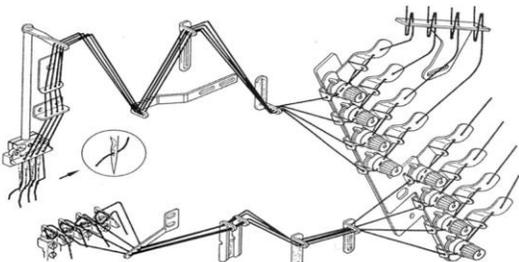

图9 (Fig.9)
1.Thread tension should be adjusted in regarding to kinds of threads fabrics, thickness of fabrics and stitch length etc. (Fig.9)
- 1.Refer to the sewing type you need for correct threading .Any incorrect threading may cause thread brake 、 uneven stitches or skip stitches. (Fig.9)